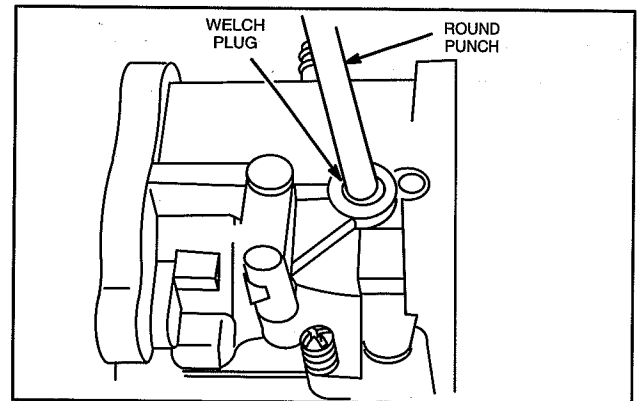

Fig. 17 – Install Welch Plug
1. Install new transitional hole idle port welch plug, Fig. 17.